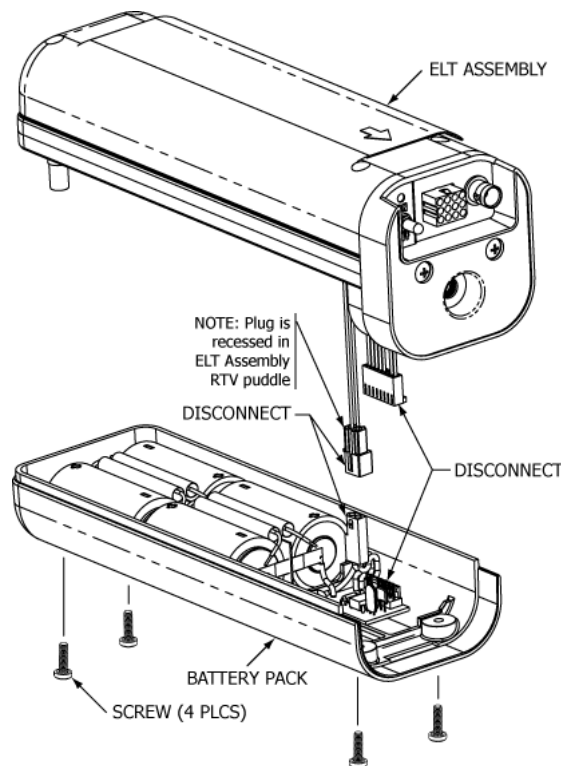

Figure 11 Battery Pack Removal
- 1) See Figure 11 Battery Pack Removal.